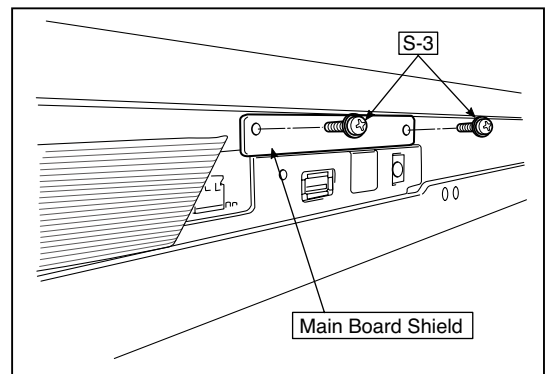

Fig.2
- 2.Remove the "S-3" screws shown in the figure 2 and then remove the Main Board Shield.